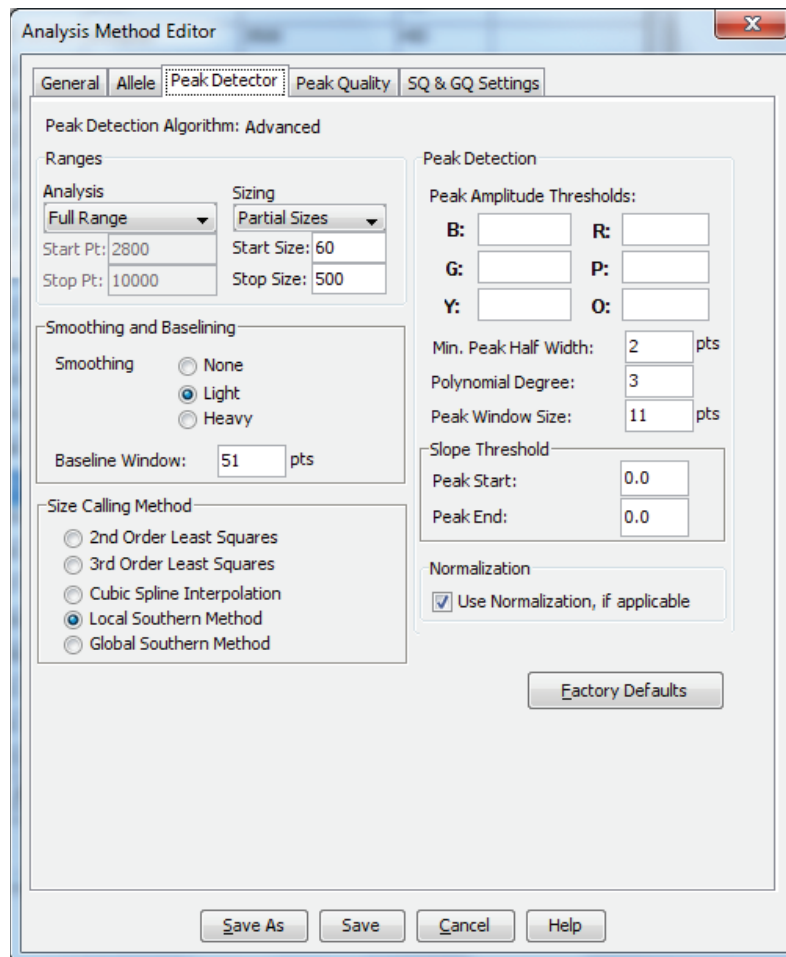

Figure 23. The GeneMapper® ID-X 'Peak Detector' tab.
9. Select the 'Peak Detector' tab (Figure 23). You will need to optimize these settings. In-house validation should be performed.
4. The peak window size shown in Figure 23 is not the default setting. It has been changed to 11 from the default value of 15. This ensures that the software can resolve alleles in the ladder that are 1 base apart for the larger loci such as D1S1656, D12S391 and D2S441.